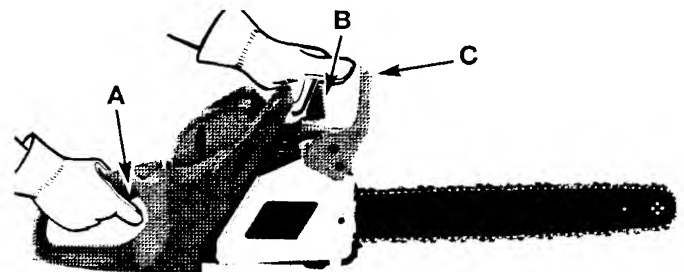

Fig. 33
3. Grasp the rear handle (A) with your right hand (Fig. 33).
4. With your left hand, hold the front handle (B) [not Chain Brake® lever (C)] firmly (Fig. 33).
5. Squeeze the throttle trigger to 1/3 throttle, then immediately activate the Chain Brake® lever (C) (Fig. 33).